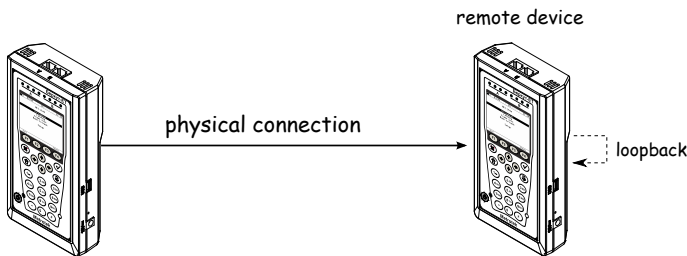

Figure 5.49. OAM testing scheme
- Connect **Bercut-ET** and remote device directly in accordance with fig. 5.49 given below.